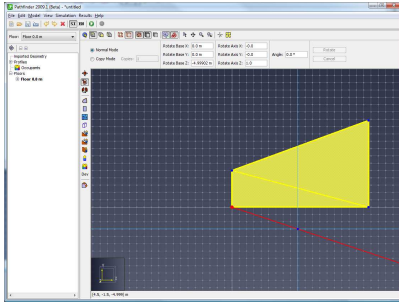

Figure 140. Base point of rotation
- The first specifies the base of rotation (Figure 140).